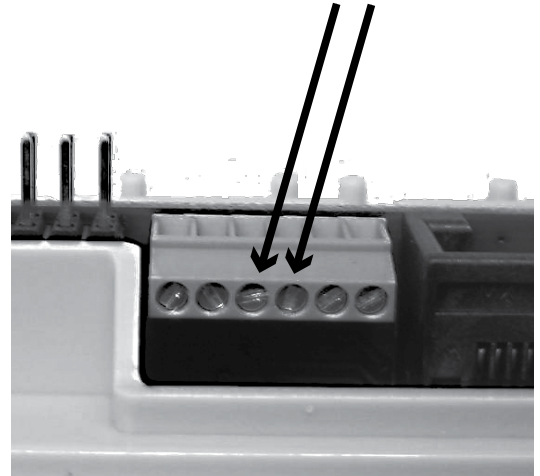

Figure 3-22
2. Run the wire to the Receiving Device. Insert both wires into the 3rd and 4th terminals on the sensor connection block and tighten the 3rd and 4th terminal block screws shown in Figure 3-22.